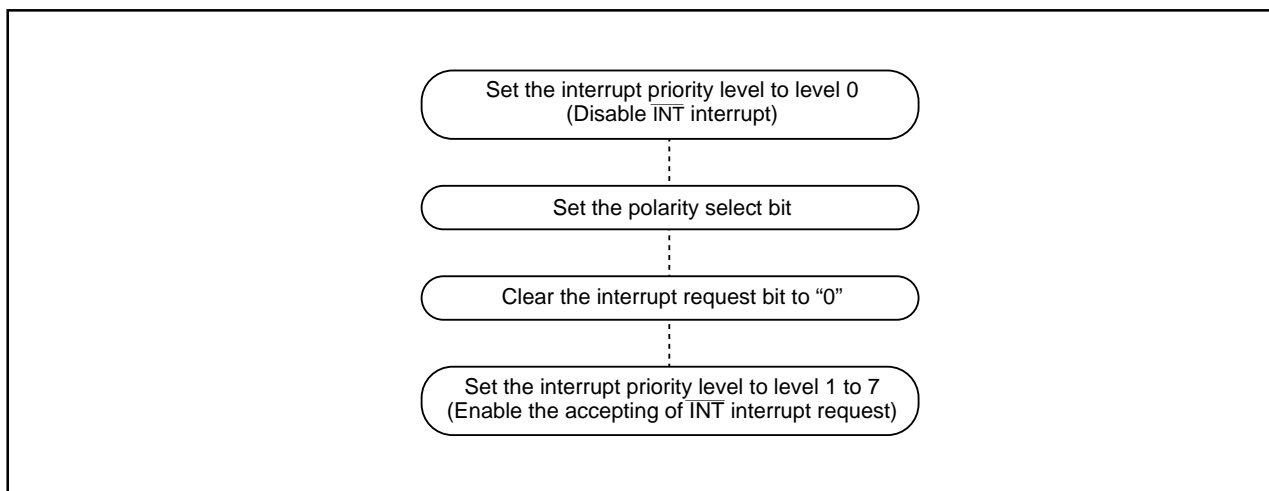

Figure 1.9.12. Switching condition of INT interrupt request
- When the polarity of the INT0 to INT5 pins is changed, the interrupt request bit is sometimes set to "1". After changing the polarity, set the interrupt request bit to "0". Figure 1.9.12 shows the procedure for changing the $\overline{\text{INT}}$ interrupt generate factor.
(5) Rewrite the interrupt control register